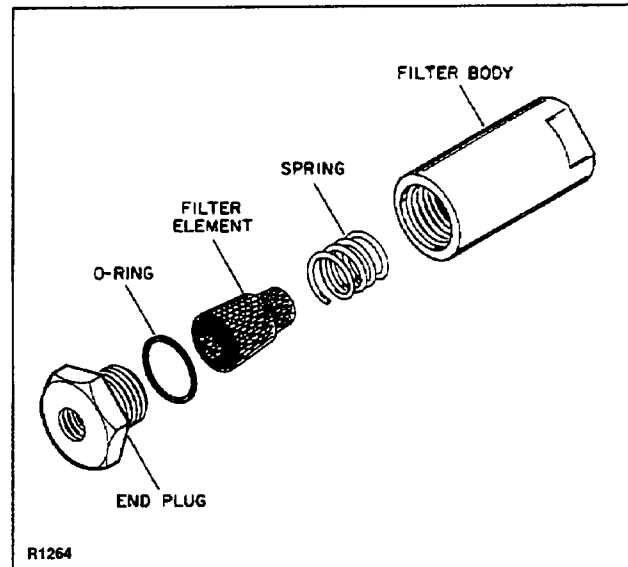

Figure 9-9. In-Line Filter
4. Disconnect nipple from the OUT end of in-line filter (Figure 9-9) using a suitable open end or tubing wrenches.